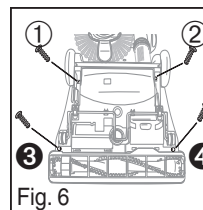

Fig. 6
- 8) Replace screws **3** & **4** closest to the brush roll first. Then replace screws **1** & **2** (Fig. 6).